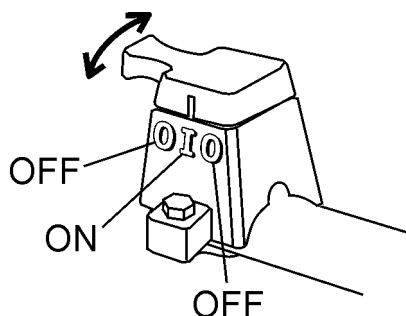
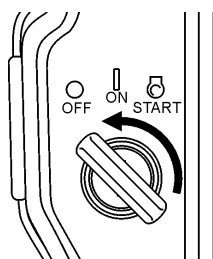

Figure 20. Engine Shutdown Switch
Figure 21. Ignition Switch (OFF position)
2. Ensure the Engine Shutdown Switch on the handlebar and the ignition switch are both in the **OFF** position to avoid accidental starting (Figure 20 and Figure 21).
7. Rotate the engine shutdown switch (Figure 20) to the **ON** position.